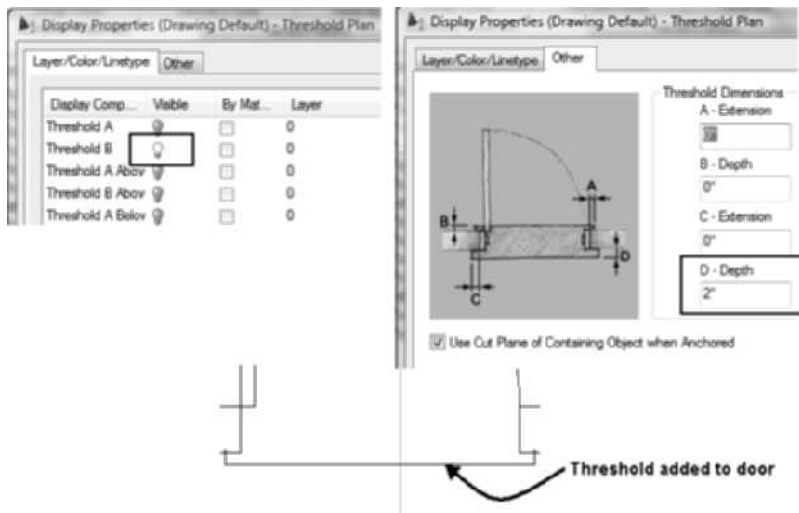

FIGURE 5.25 Editing Display Properties to add a threshold
22. Choose the Layer/Color/Linetype tab. Toggle ON the lightbulb for Threshold B. Choose the Other tab. Edit the D - Depth value to 2" [50]. Choose OK to dismiss all dialog boxes and display a threshold for the door as shown in Figure 5.25.